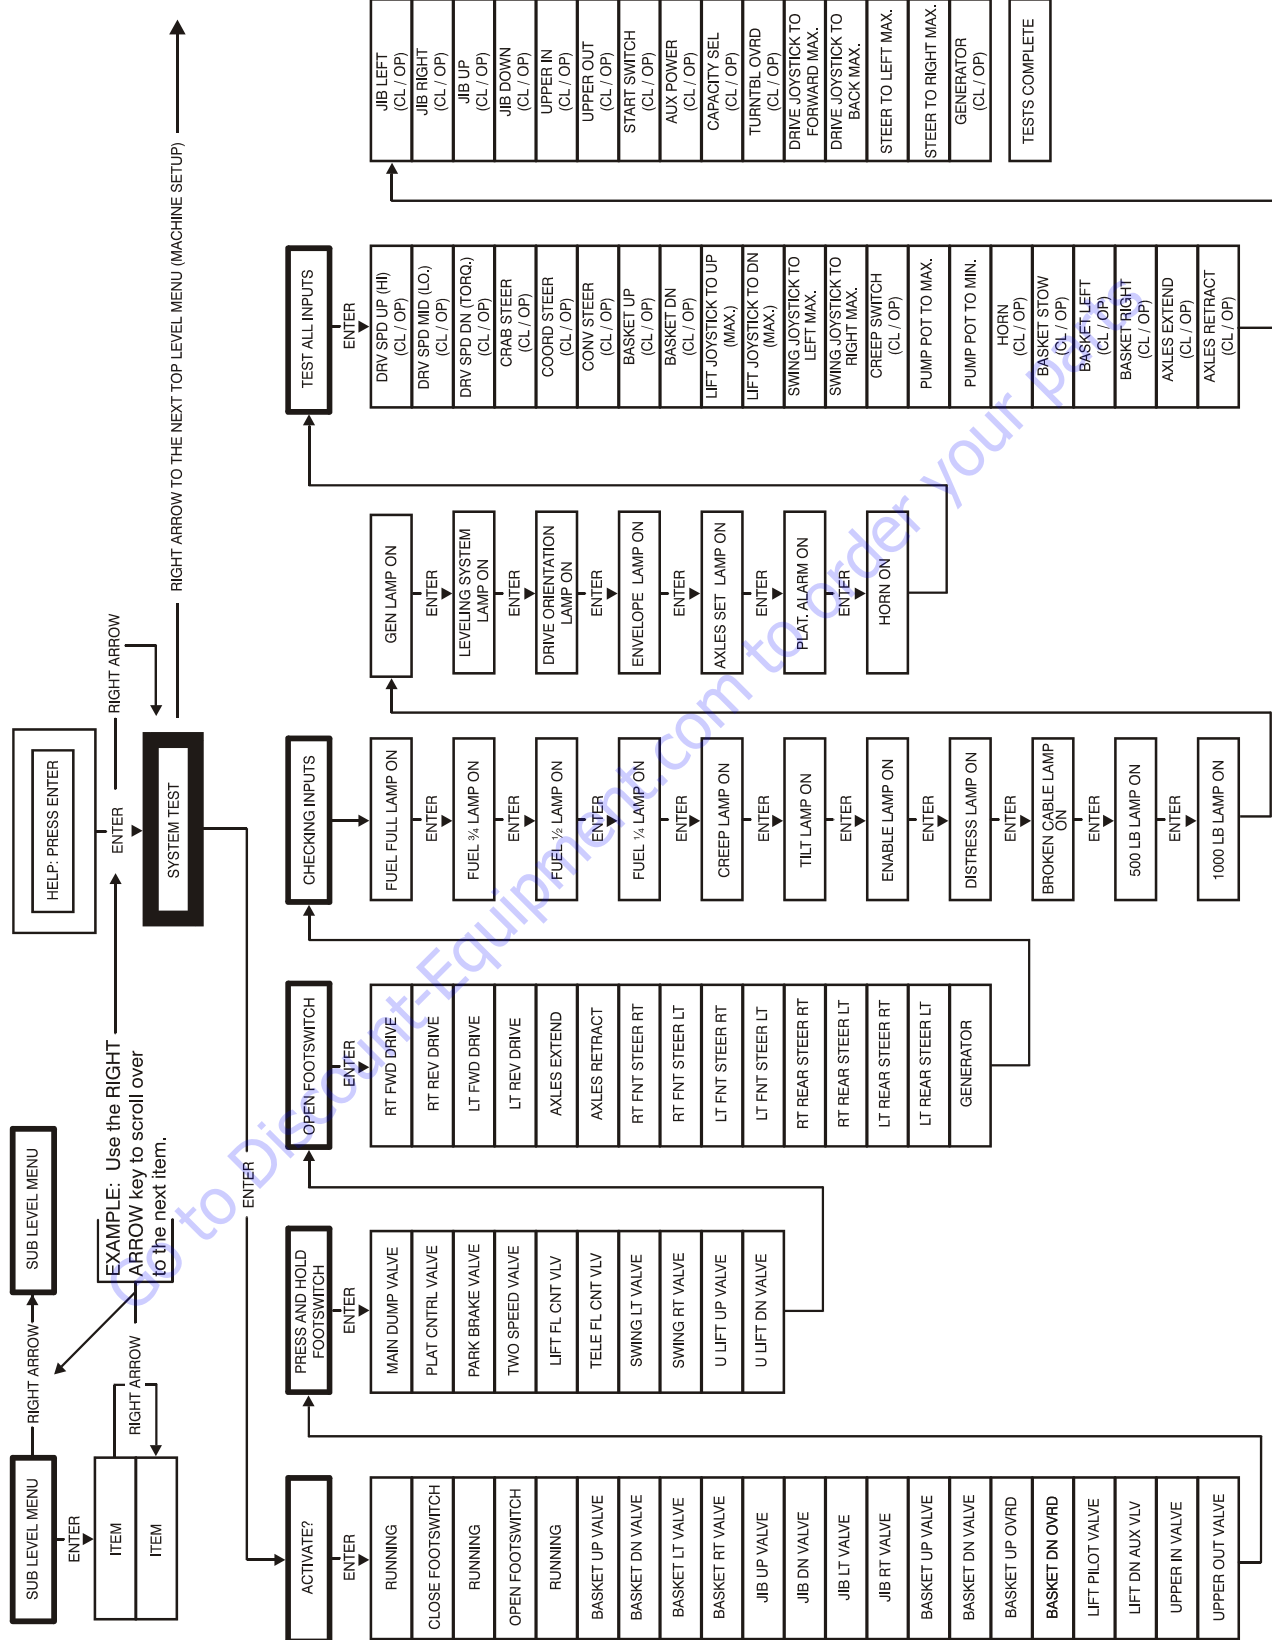

Figure 6-15. System Test Flow Chart - Platform Tests
7. Follow the flow path in Figure 6-15., System Test Flow Chart - Platform Tests and go through the component tests. Hit the ESC key during any part of the test to return to the main menu without completing all tests or wait until all tests are complete. During the TEST ALL INPUTS sequence, the analyzer allows control switches to be operated and shows if they are closed (CL) or open (OP).